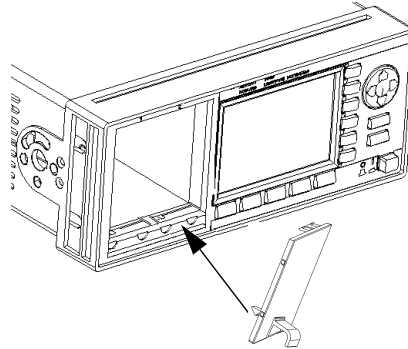

Figure 194 Fitting a Blind Panel
- 1 Position the blind panel as shown in Figure 194. Position the end closest to the handle against the bottom edge of the slot.